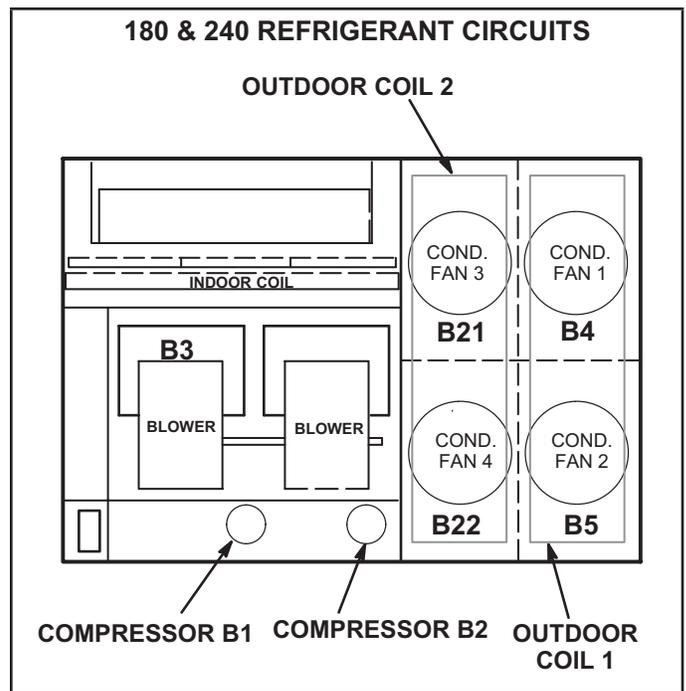

FIGURE 14
- 4 - Units contain two refrigerant circuits or systems. See FIGURE 14.